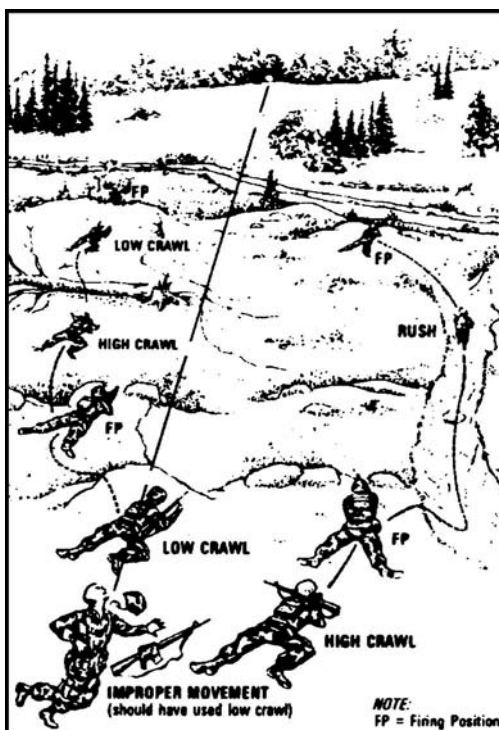

Figure 1. Individual movement route.
1. Select an individual movement route within your team, or squad route or axis of advance (Figure 1).